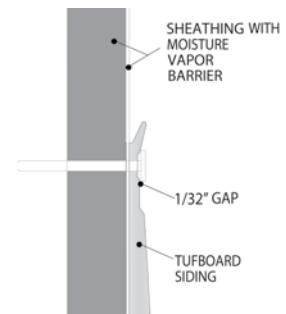

Fig. 10
- Do not drive head of fastener tightly against nailing slot. Leave 1/32" between fastener head and nailing slot (see Fig. 10).